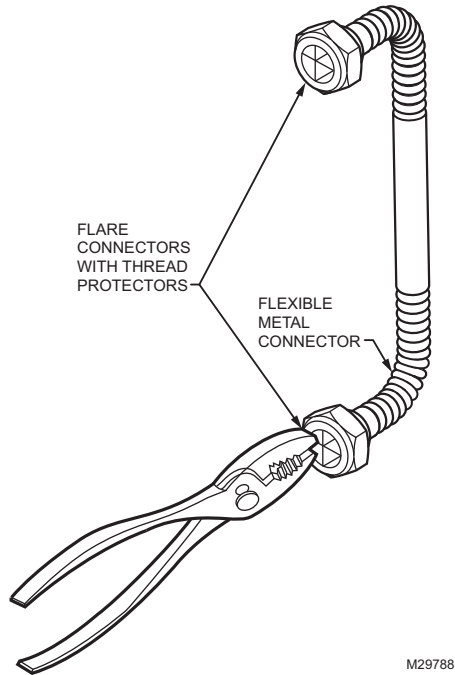

Fig. 4. Remove plastic thread protectors.
1. Plastic thread protectors are installed in both ends of the flexible metal connector. Remove these protectors with pliers using a pulling and twisting motion, as shown in Fig. 4.